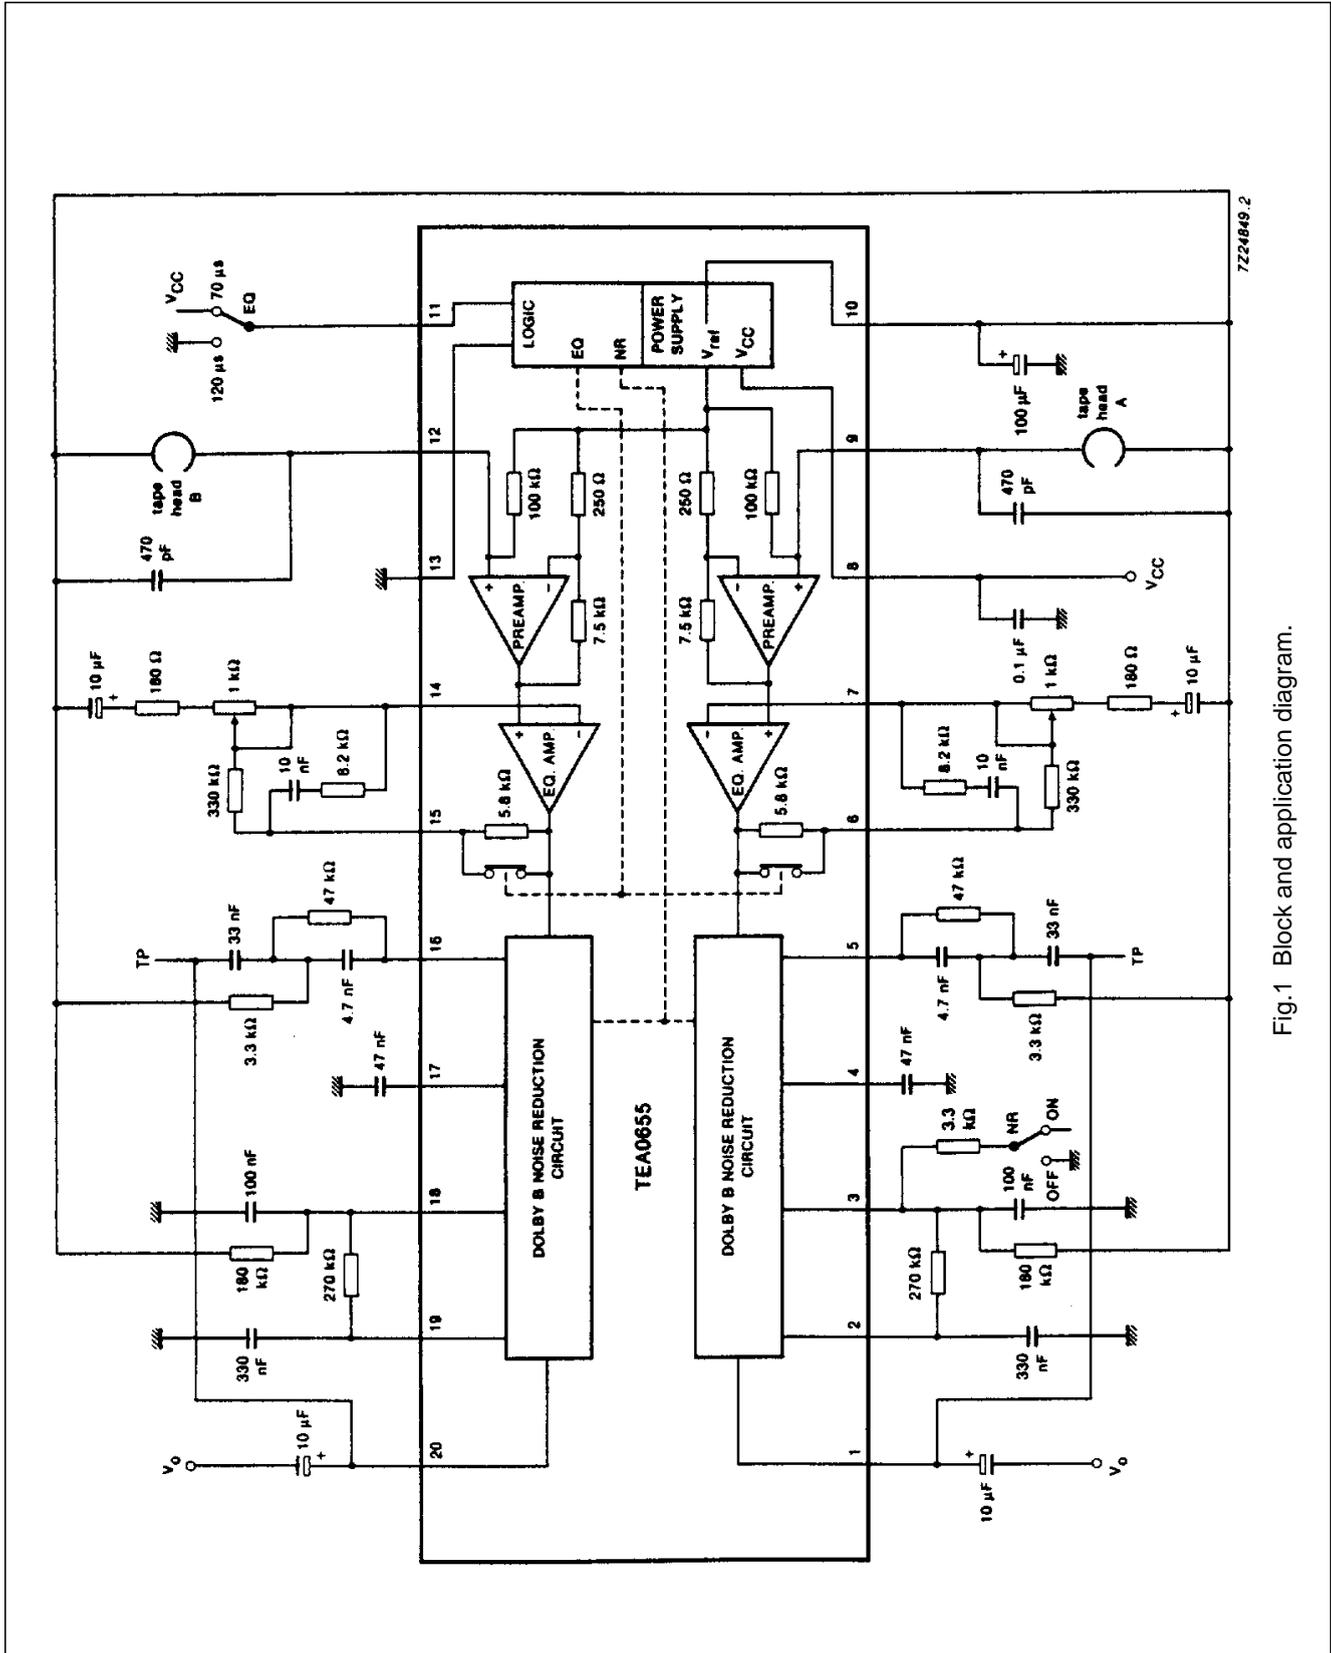

Fig.1 Block and application diagram.
Noise reduction is enabled when pin 3 is open-circuit and disabled when pin 3 is connected to GRD (pin 13) via a 3.3 k $\Omega$  resistor (see Fig.1).
$V_{CC} = 10\text{ V}$ ;  $f = 20\text{ Hz}$  to  $20\text{ kHz}$ ;  $T_{amb} = +25\text{ °C}$ ; all levels referenced to  $387.5\text{ mV RMS}$  (0 dB) at test point (TP) (pin 1 or 20); test circuit Fig.1; NR ON; EQ switch in the  $70\text{ }\mu\text{s}$  position; unless otherwise specified.
1. Equals the corresponding decode mode cut with reference to test point level, see Fig.1.